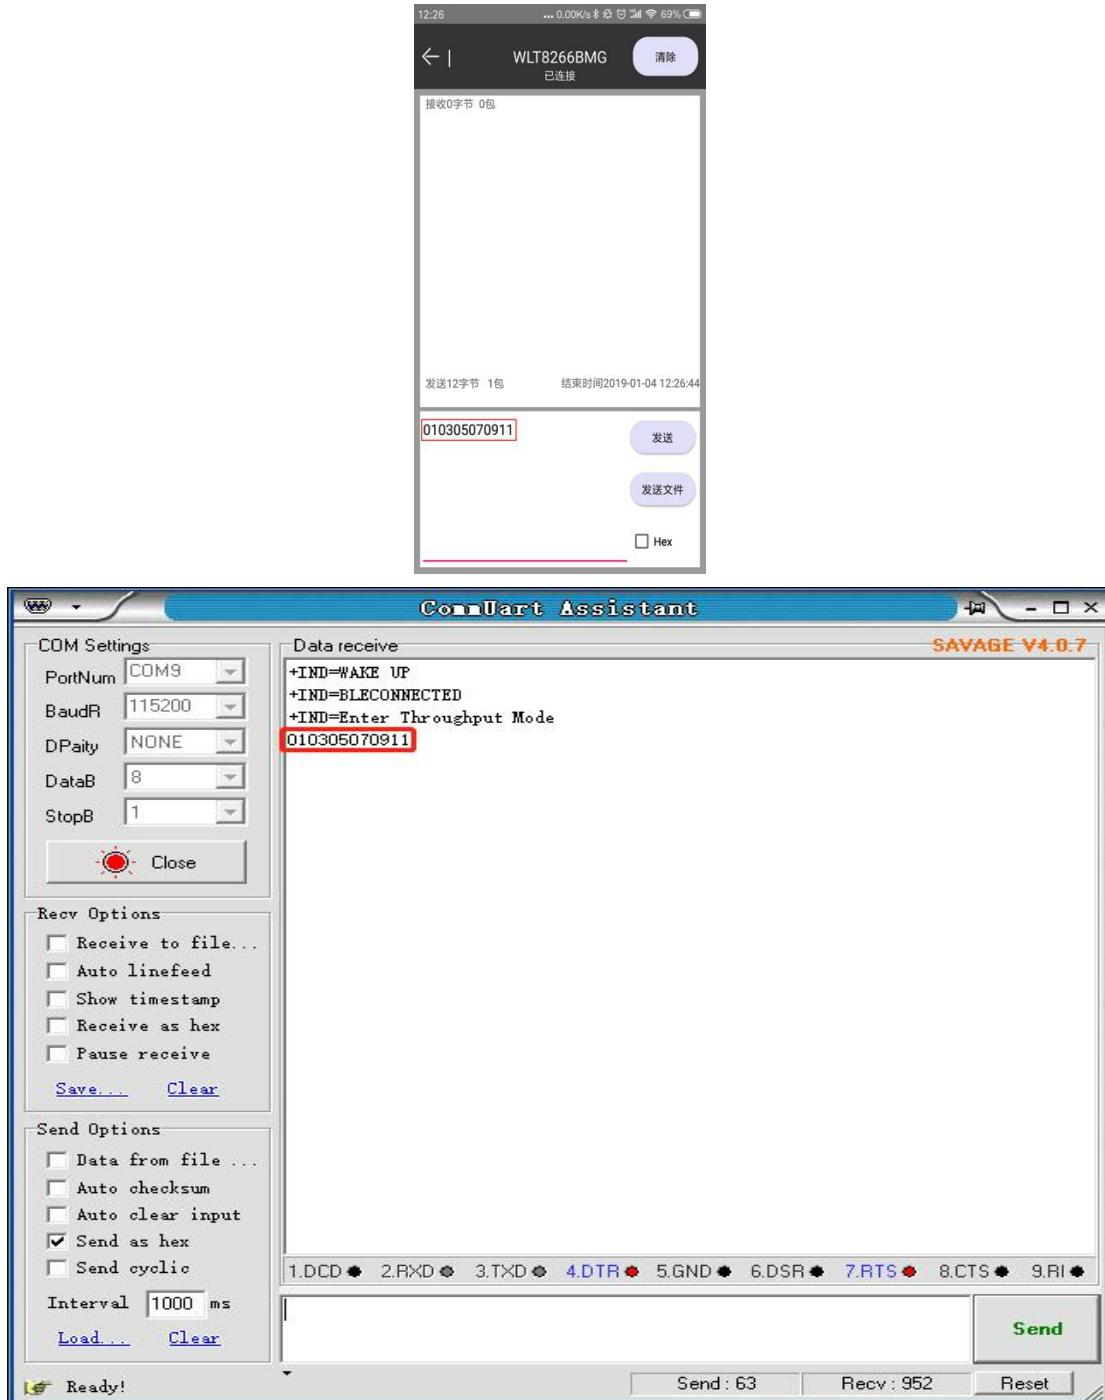

Figure 16.
2) Send Mode, as shown in Figure 16;